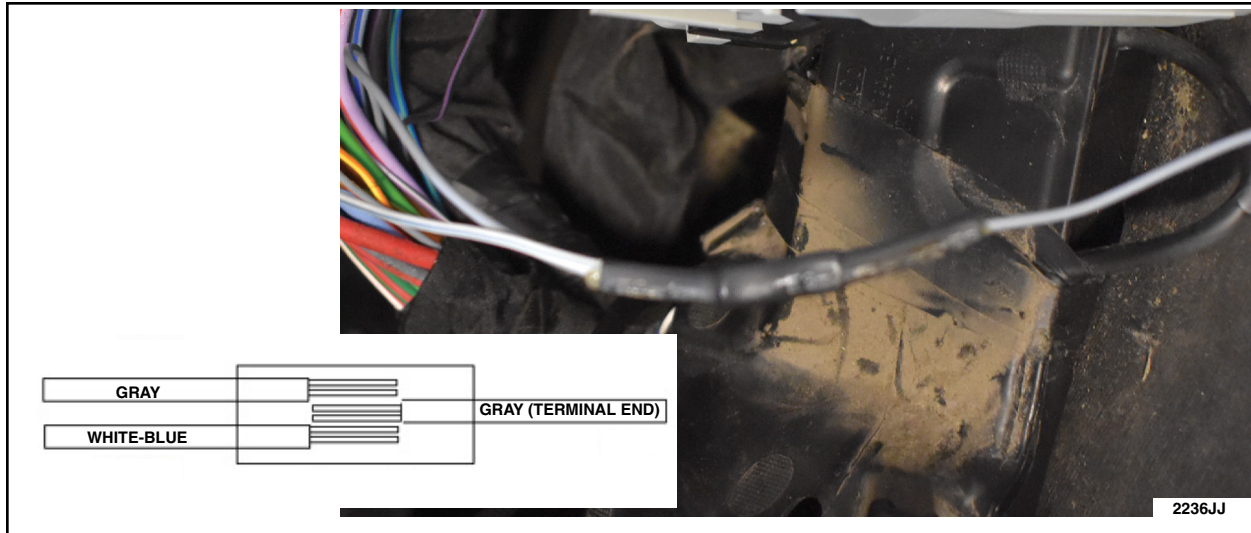

FIGURE 41
48. On the gray terminal end fold the exposed wire in half before placing in splice butt connector. This will allow good contact with the butt splice connector. Place wires in splice butt connector. See Figure 41.